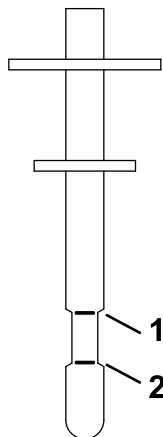

Figure 67
6. Remove the dipstick and wipe it with a clean rag (Figure 67).
7. Place the dipstick into the filler neck, remove it, and check the fluid level (Figure 67).